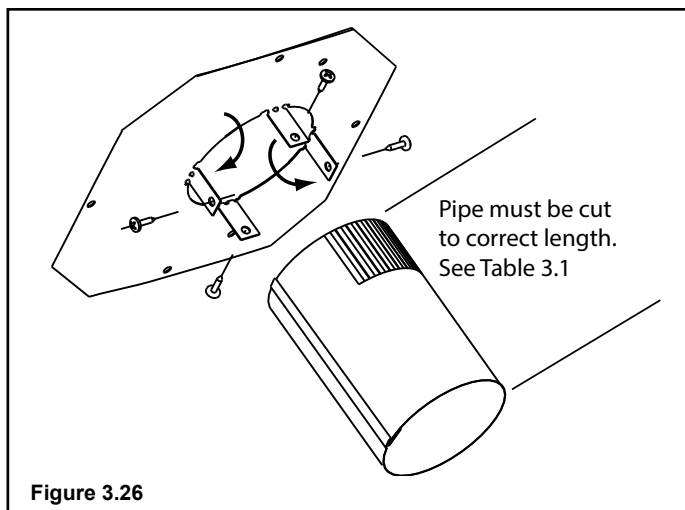

Figure 3.26
- On the mounting plate, hand bend the tabs downward. Slide the tabs over the outside of the starter pipe. Secure with four sheet metal screws included in fasteners package. Figure 3.26.